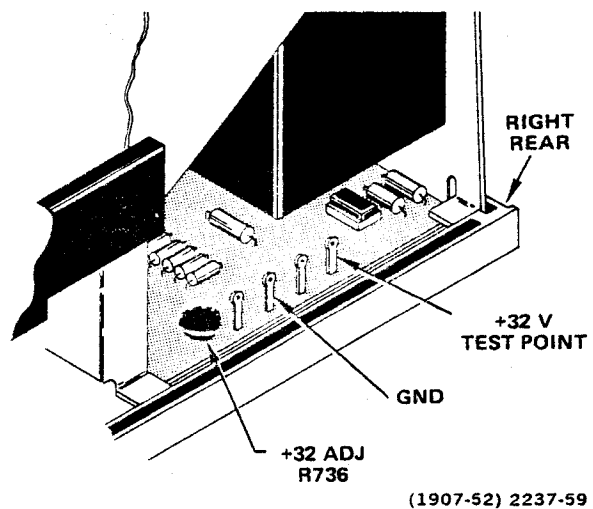

Figure 5-16. +32 volt test point and adjustment location.
(4) Do not preset ASTIG and TRACE ROTATION. They will be adjusted later.
(5) Throughout the procedure INTEN, FOCUS, and LEVEL may be adjusted as necessary to obtain a visible, well defined, and stable display. Occasionally, these controls may be set by a procedural step.
b. +32 Volt Power Supply (Figure 5-16).
(1) Connect a digital voltmeter between +32 Volt test point and GND.
(2) Adjust +32 V ADJ, R736 for a +32.0 voltage reading.
(3) Disconnect the voltmeter.